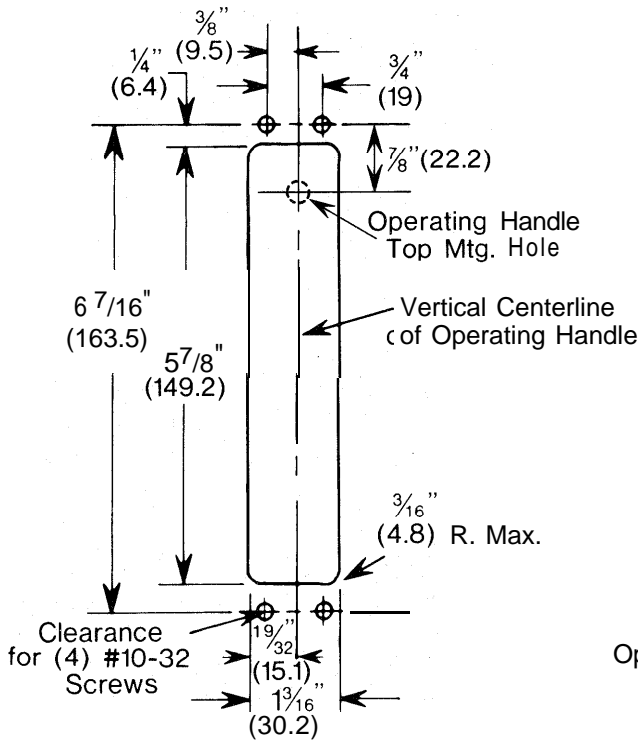

Figure 1
2. Provide the flange slot and holes as shown in Figure 1.